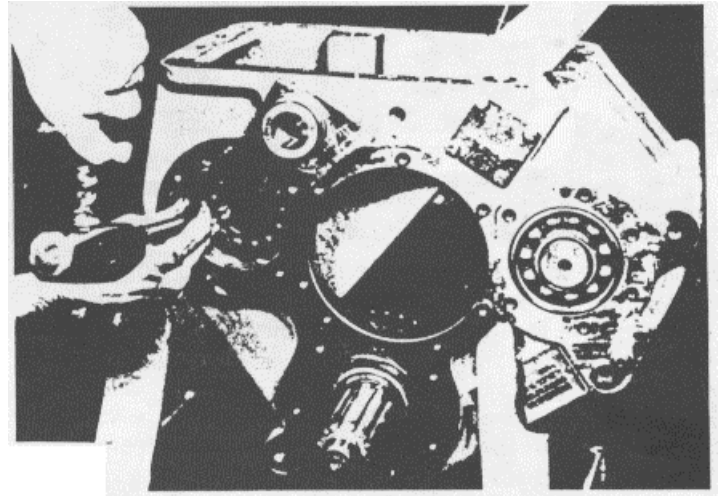

Fig. 6
4. Tap on the rear end of the shaft (See Fig. 6) and remove the shaft and the front bearing (Item 18) at the front of the case. Since the bearings (Item 11 and Item 24) are press fitted on the shaft, the shaft will not "just slip out".